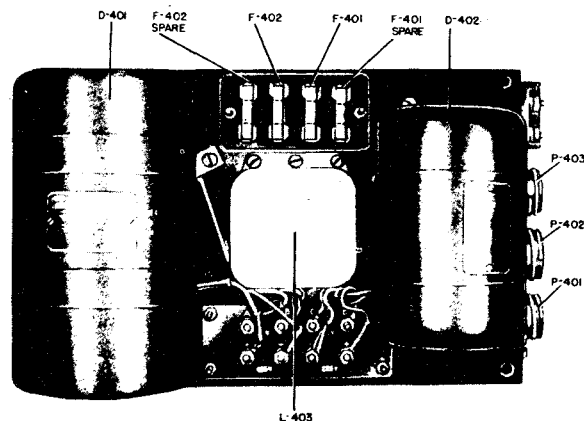

Fig. 2-28 Type -21881-B Dynamotor Power Supply Top View
a. The Type -21881-B Power Supply (see figures 2-28, 2-29, 2-30, 2-31) operating from a 12-volt direct-current source, contains two dynamotors, D401 which furnishes the 425-volt direct current for the high-voltage stages of the transmitter and D402 which supplies the 225-volt direct current for the low-voltage stages of the transmitter and for the operation of the receiver. Both the input and output circuits of the dynamotors are filtered to reduce the interference caused by brush arcing and to reduce the ripple components of the output. Relay K401,